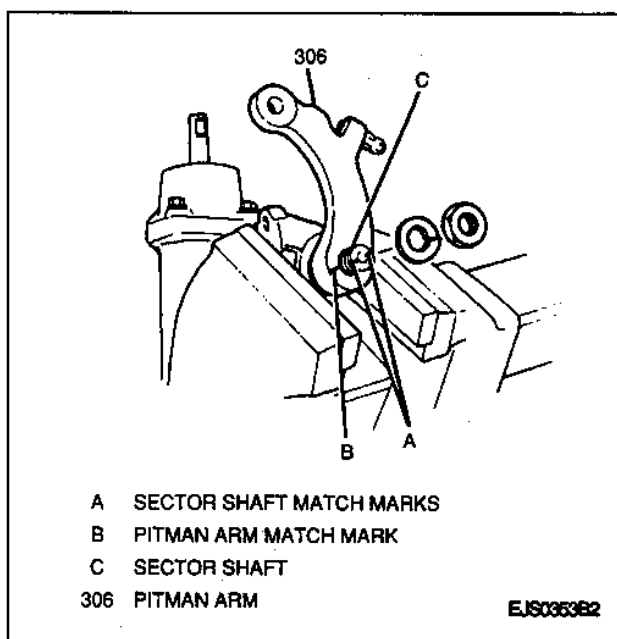

Figure 5—Installing Pitman Arm
1. Pitman arm to manual steering gear; secure with sector shaft nut. Align matchmarks on sector shaft and pitman arm. Do not fully tighten sector nut at this time (Figure 5).